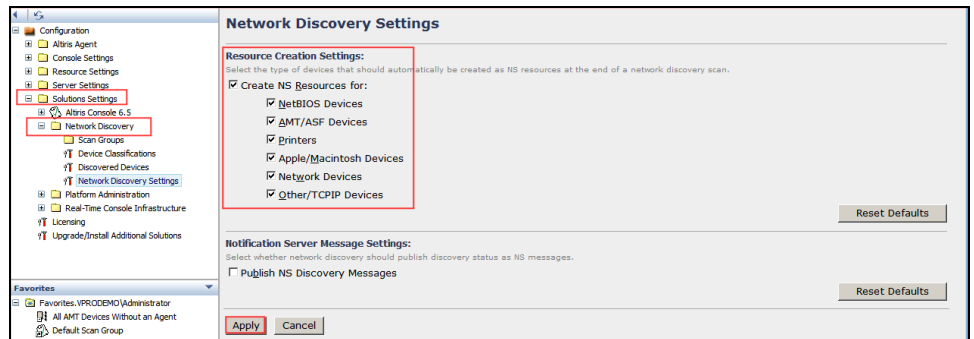

Figure 6. Select Network Discovery Settings
2. In the right pane, under **Resource Creation Settings**, select the hardware that needs to be captured during the discovery process (see Figure 6)